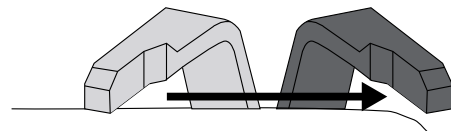

Figure 11 - Choke Lever - OFF
9. As the engine starts and stabilizes, gradually move the choke lever back to the **OFF** position (see Figure 11 below).